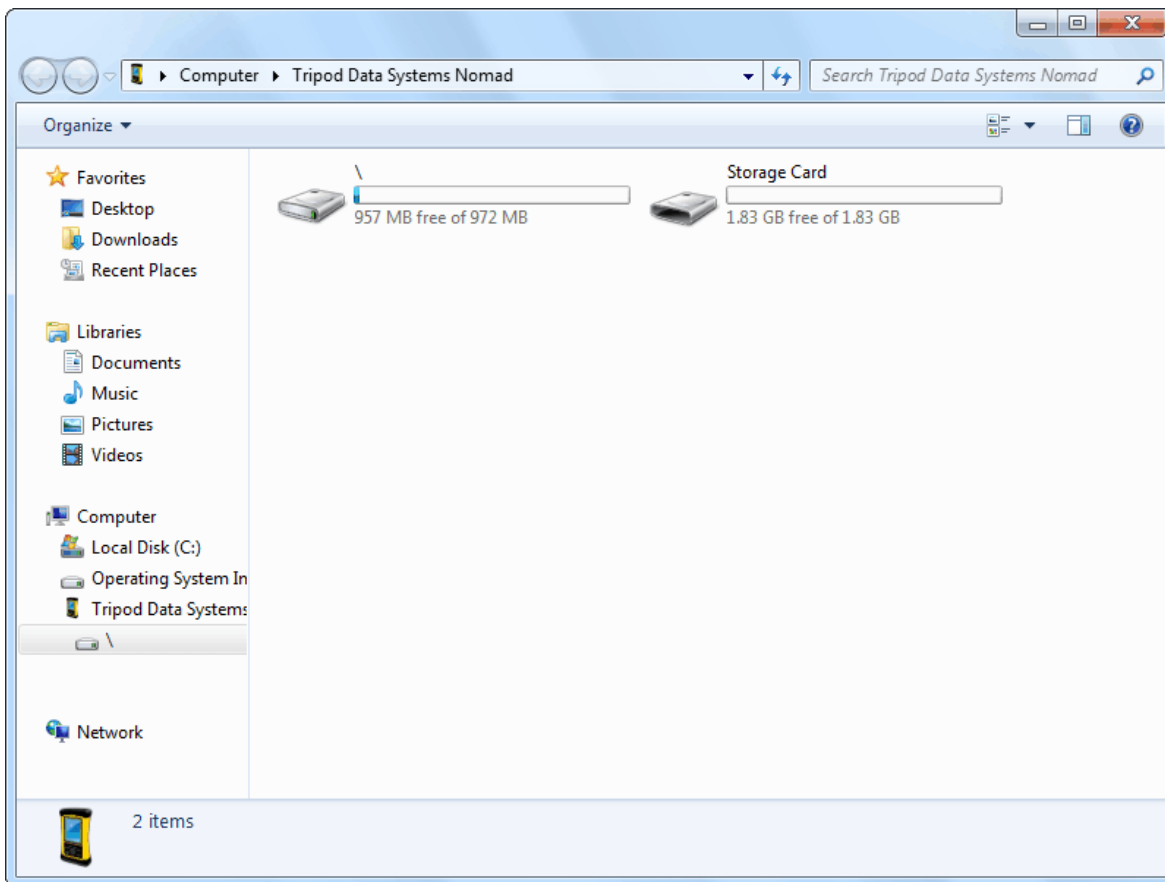

Figure 74. The Detective Computer's Top-Level File Structure.
- 6) Windows Explorer will open and the Detective's computer will be listed as shown in Fig. 74. Stored search and identification files will be located in the **My Documents** folder or the SD card's **Data** folder, depending on the location set on the Spectra dialog (see Section 5.3.3.3).